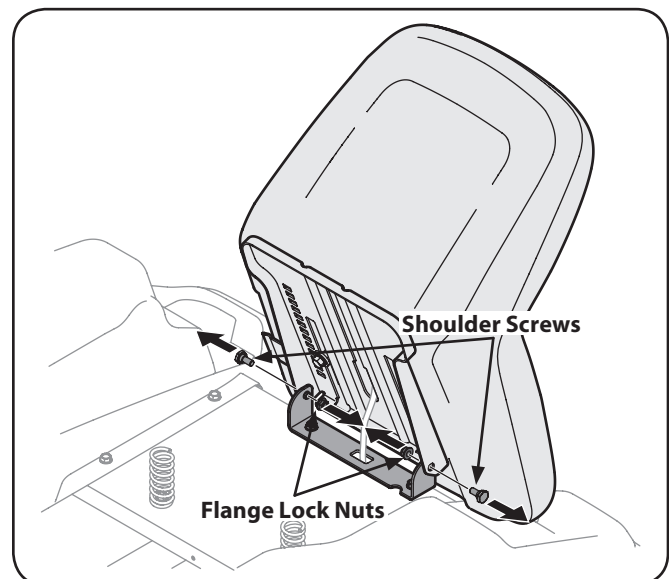

Figure 3-5
3. Rotate the seat into position and secure the seat into place with the previously removed shoulder screws and flange lock nuts. Be careful not to crimp or damage the wire harness while installing the seat. See Figure 3-5.